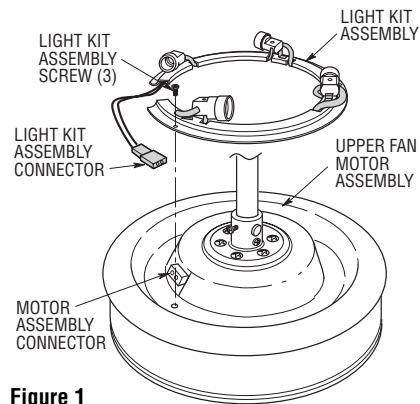

Figure 1
1. Position the light kit assembly so that the opening of the light kit assembly slides through the downrod. Align the female connector of the light kit assembly with the male connector of the motor housing assembly (Figure 1).
2. Align the mounting holes of the light kit assembly to the motor assembly (Figure 1).
3. Install the light kit assembly to the motor assembly using three light kit assembly mounting screws (Figure 1).
4. Securely connect the light kit assembly connector to the motor assembly connector (Figure 1).